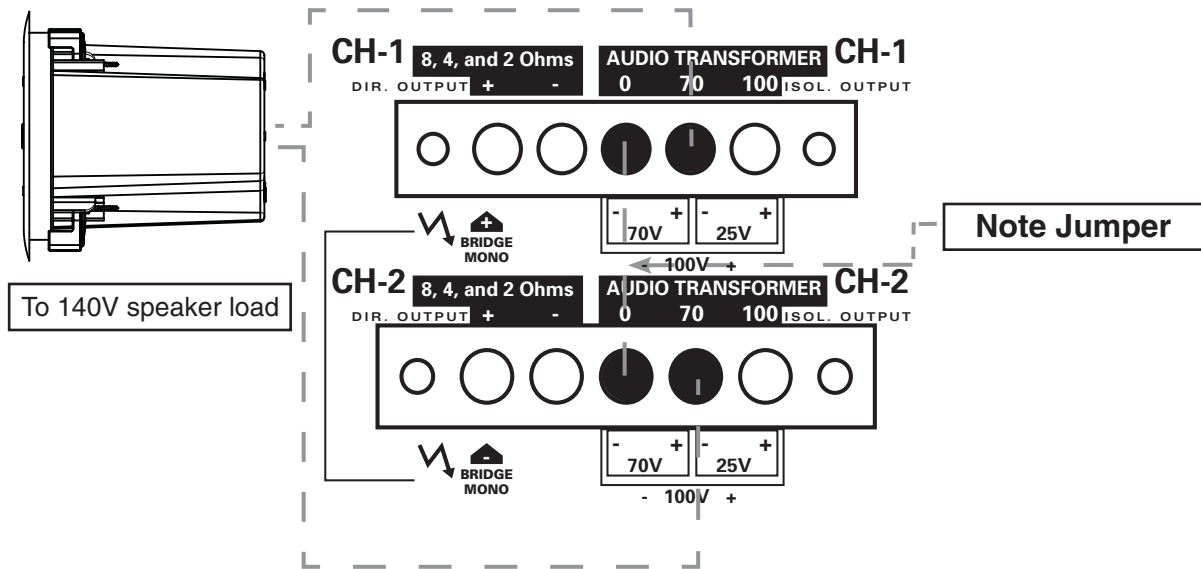

Figure 11
- **140V Operation** - Connect the positive lead of the speaker load to the channel ONE 70V positive "+" terminal, the negative speaker lead connects to the channel TWO 70V positive "+" terminal. Connect a suitable jumper wire between the two terminals labeled "0." Consult your local codes to determine if Class I wiring is required (Figure 11).